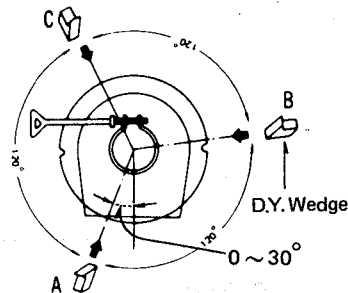

Figure 9
7. Secure the deflection yoke by reinserting the wedges. (See figure 9)
1. Wedge A shown in figure 9 should be fixed within a range of $0^\circ \sim 30^\circ$ to the left of the vertical line as shown.